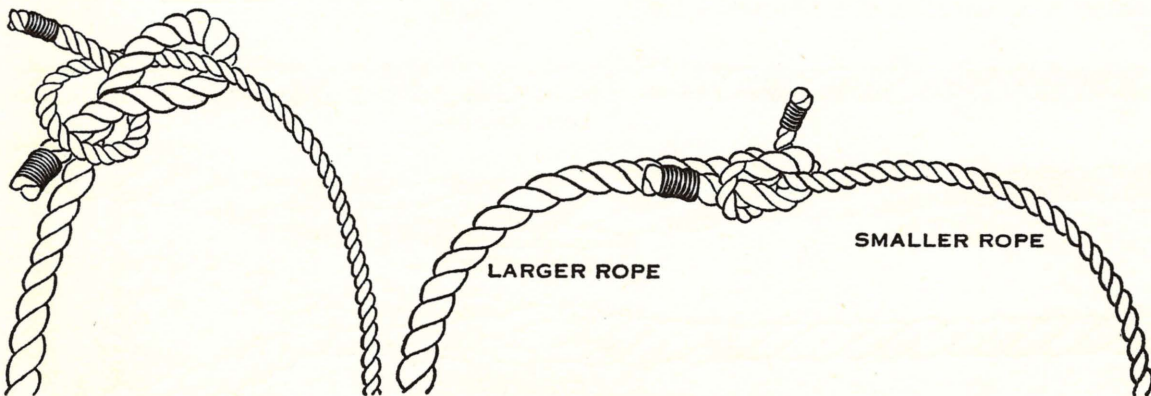

Fig. 535—The sheet bend
4. **The Sheet Bend** is used in tying together the ends of two ropes of different size, and is easily untied. (See Fig. 535.)